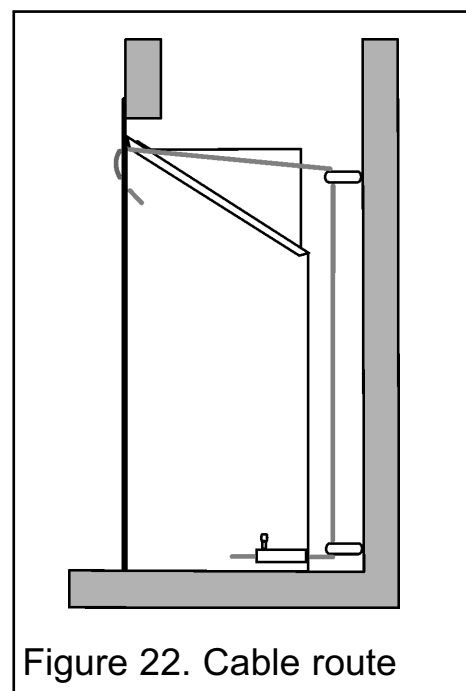

Figure 22. Cable route
6. Thread the cables through the eyebolts. Return the cables through the holes near the bottom of the convection box back panel (See figure 22).